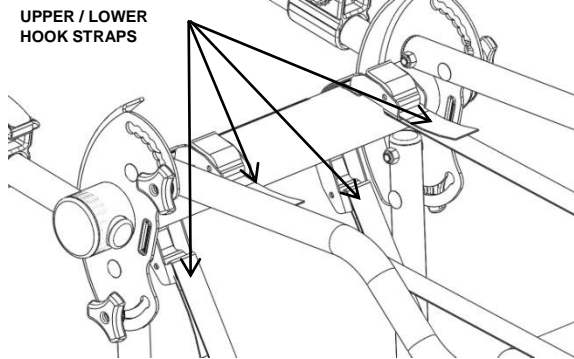

FIGURE 2
5. Thread upper / lower hook straps through cam buckles of main support assembly. (Fig 2)